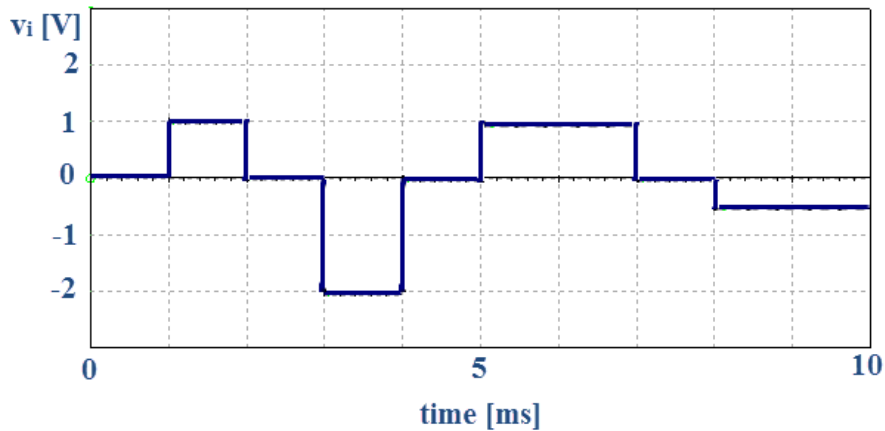

Figure 2.8: Input waveform for Problem 2.7 on the facing page
1. Let $v_i(t)$ be the pulse waveform of Figure 2.8 on the next page. Plot $v_o(t)$ for $t = 0$ to $t = 10$ ms for an initial integrator output of zero volts, and determine $v_o(t)$ at the times $t = 2.5, 4.5,$ and 9.0 ms.
1. Use the `PIECEWISE_LINEAR_VOLTAGE` source to create the pulse waveform shown in Figure 2.8, and use the Simulate \rightarrow Instruments \rightarrow
1. Use the NI ELVISmx Arbitrary Waveform Generator (ARB) to create the pulse waveform shown in Figure 2.8 on the previous page, and use the NI ELVISmx Oscilloscope to plot the signals $v_i(t)$ and $v_o(t)$. Take cursor measurements to determine the values of $v_o(t)$ at the times $t = 2.5, 4.5,$ and 9.0 ms. Expect some amount of DC offset